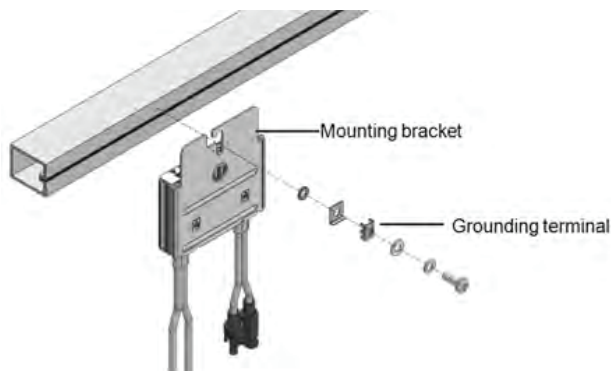

Figure 5: Power optimizer grounding terminal
- **For mounting on un-grounded structures** (such as a wooden structure): If the star washer or the plate cannot be used, use the SolarEdge grounding lug (purchased separately) with an equipment-grounding conductor according to the supplied instructions. The grounding terminal accepts a wire size of 6-14 AWG, and must be sized for equipment grounding per NEC 250.122 requirements. Tighten the screws connecting the power optimizer to the frame and the grounding terminal screw. Apply torque of 9.5 N*m / 7 lb*ft. See Figure 5.